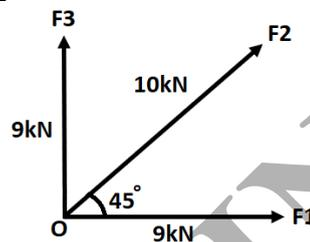

Figure Q3b: Marble O subject to forces.
- b) **Figure Q3b** shows marble O subject to forces. Find the resultant force R in terms of magnitude and angle.